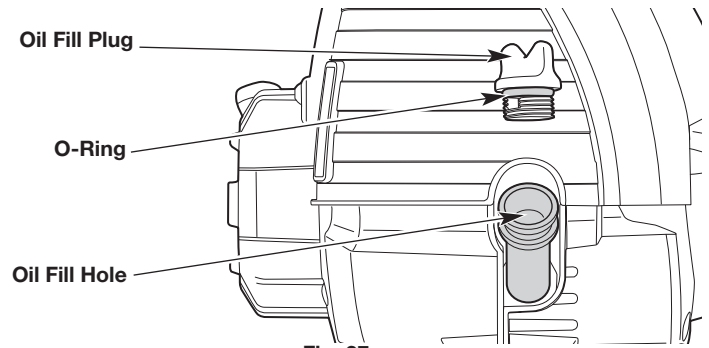

Fig. 27
3. Clean the area around the oil fill plug (Fig. 27) to prevent debris from entering the oil fill hole.
NOTE: Make sure the O-ring is in place on the oil fill plug (Fig. 27).
1. Clean the area around the oil fill plug (Fig. 27) to prevent debris from entering the oil fill hole.